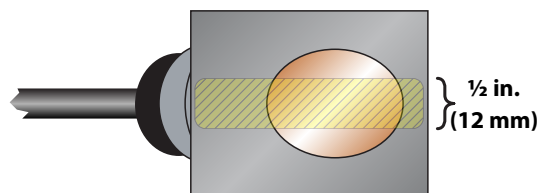

Figure 20: Application of couplant
For DTTR, DTTN, DTTL and DTTT transducers, place a single bead of couplant, approximately 1/2 inch (12 mm) thick, on the flat face of the transducer. See *Figure 20*. Generally, a silicone-based grease is used as an acoustic couplant, but any good quality grease-like substance that is rated to not flow at the operating temperature of the pipe is acceptable. For pipe surface temperature over 130° F (55° C), use Sonotemp® (P.N. D002-2011-010).
5. For DTTR, DTTN, DTTL and DTTT transducers, place a single bead of couplant, approximately 1/2 inch (12 mm) thick, on the flat face of the transducer. See Figure 20. Generally, a silicone-based grease is used as an acoustic couplant, but any good quality grease-like substance that is rated to not flow at the operating temperature of the pipe is acceptable.
See *Figure 20 on page 23*.